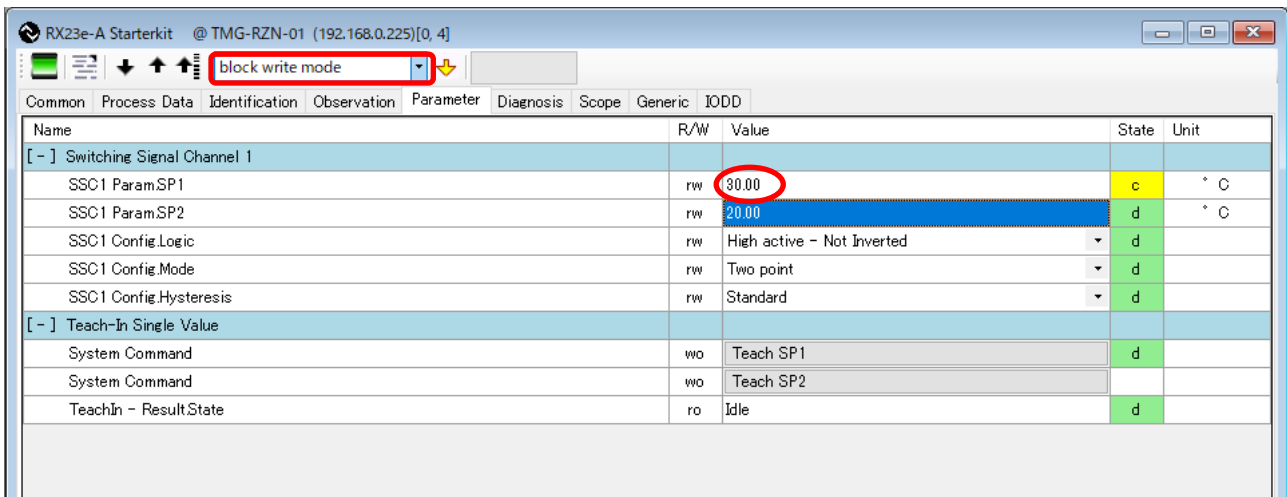

Figure 5-19 IO-Link Device Tool V5.1 – PE (Parameter setting in block write mode)
4. Every time you change a parameter, you need to click the "Write all changed values to device" button, as shown in Figure 5-19.